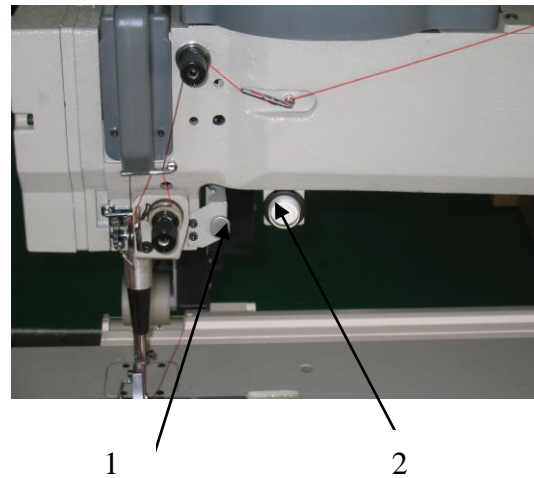

Fig.5
To feed the work toward you ,press down the switch for reverse feeding(1) .To compensate one or more stitch ,press down the switch for stitch compensation (2). ( Fig.5)